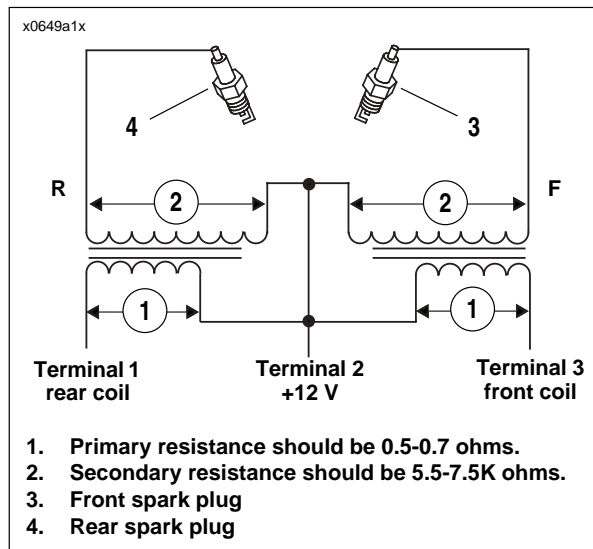

Figure 4-72. Ignition Coil Circuit
3. See Figure 4-72. Using HARNESS CONNECTOR TEST KIT (Part No. HD-41404) gray socket probes, place multimeter wires on primary coil windings from terminal 1 to 2, and from terminal 2 to 3.
3. See Figure 4-72. Place multimeter wires on secondary coil windings from terminal 2 to R, and from terminal 2 to 3.